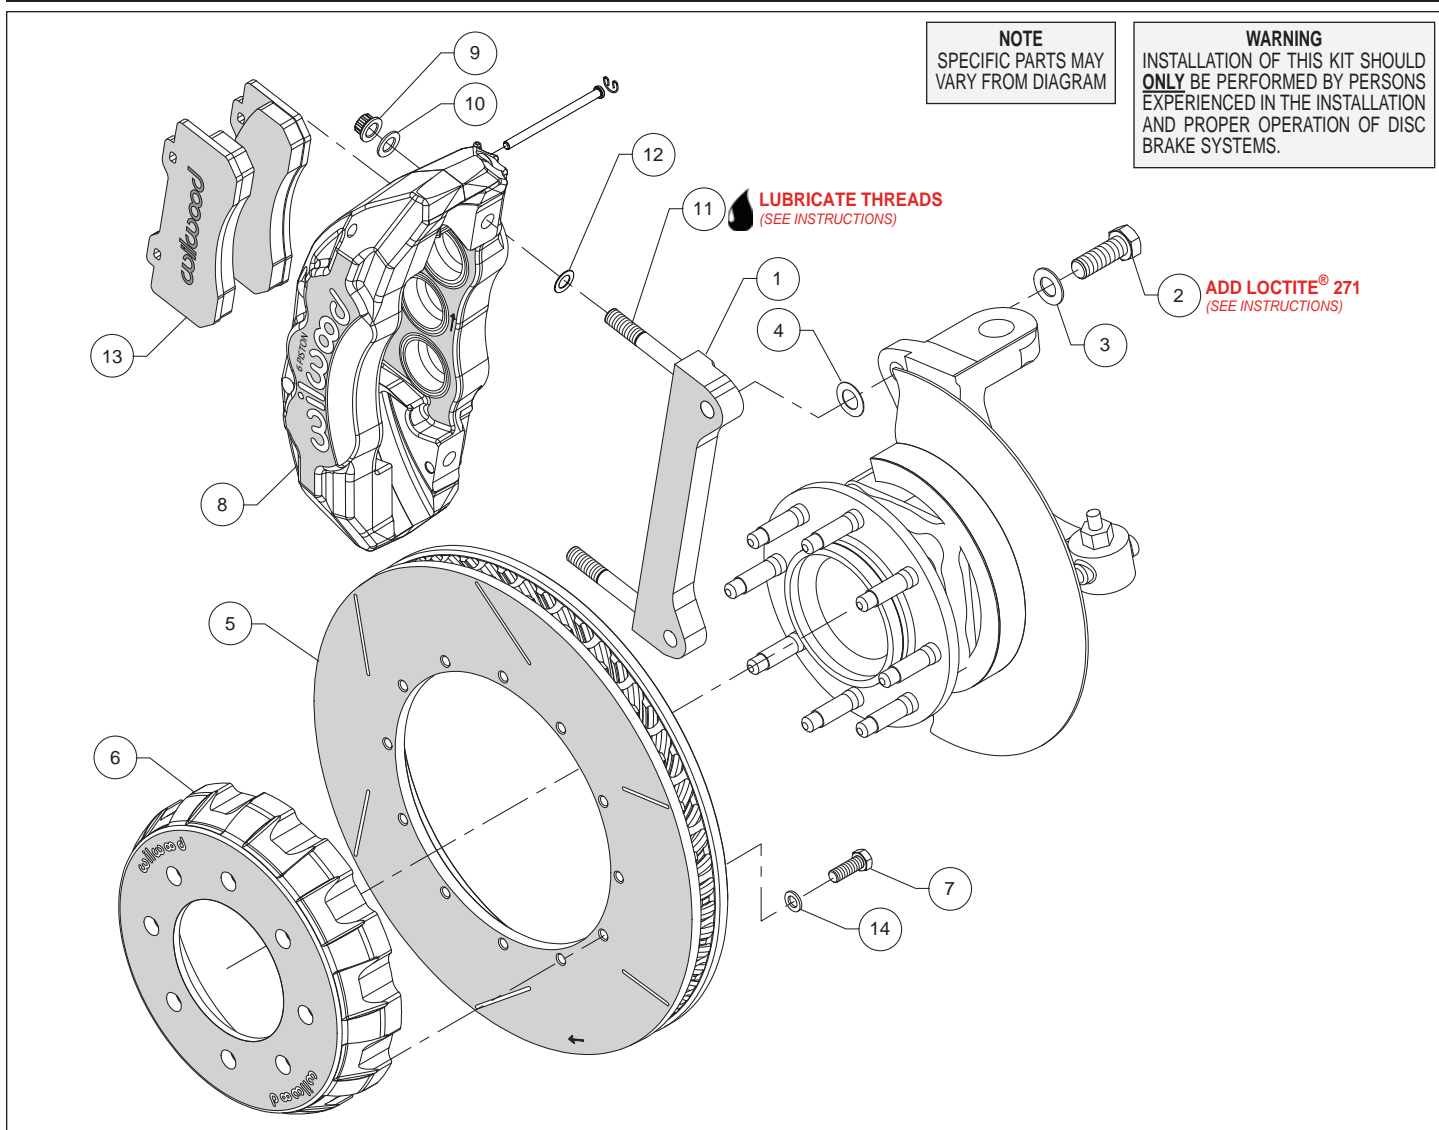
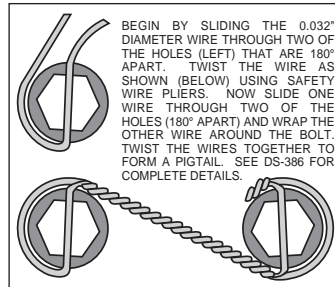

Figure 1. Typical Installation Configuration
Figure 3. Safety Wire Diagram
Assembly Instructions (numbers in parenthesis refer to the parts list and Figure 1 on the preceding pages):
- The caliper mount bracket (1) should initially be installed with clean, dry threads on the mounting bolts. Orient the bracket as shown in Figure 1 and Photo 1, and install using bolts (2) and washers (3). Initially place one .024 thick shim (4) on each bolt between the bracket and upright, Figure 1. Temporarily tighten the mounting bolts. **NOTE:** *The bracket must fit squarely against the mount bosses on the upright.* Inspect for interference from casting irregularities, machining ridges, burrs, etc. Later, after the caliper alignment has been checked, the mount bolts will be secured using red *Loctite*[®] 271.
- Orient the rotor (5) and the hat (6) as shown in Figure 1 and Photo 2. Attach rotor to hat using bolts (7) and washers (14). Using an alternating sequence, torque to 25 ft-lbs. For an added measure of security, the bolts may be safety wired using standard 0.032 inch diameter stainless steel safety wire as shown in Figure 3. Please refer to Wilwood's data sheet DS-386 (available at www.wilwood.com/Pdf/DataSheets/ds386.pdf) for complete safety wire installation instructions.
- NOTE:** *This kit contains distinct right and left hand calipers that must be mounted in a specific direction, as described below.* Lubricate the caliper mounting studs (11) with lightweight oil. Initially place one .032" thick shim (12) on each stud as shown in Figure 1 and Photo 3. Mount the caliper (8) onto the bracket (1) using lock nuts (9) and washers (10), Figure 1. Ensure that the caliper is mounted so that the largest pistons are at the rotor exit end of the caliper, in relation to the direction of rotor rotation. Temporarily tighten the lock nuts and view the rotor through the top opening of the caliper. The rotor should be centered in the caliper, Photo 4. If not, adjust by adding or subtracting shims (4) between the bracket and the upright. Always use the same amount of shims on each of the two mounting bolts. Once the caliper alignment is correct, remove the bracket mounting bolts (2) one at a time, apply red *Loctite*[®] 271 to the threads, and torque to 120 ft-lb.